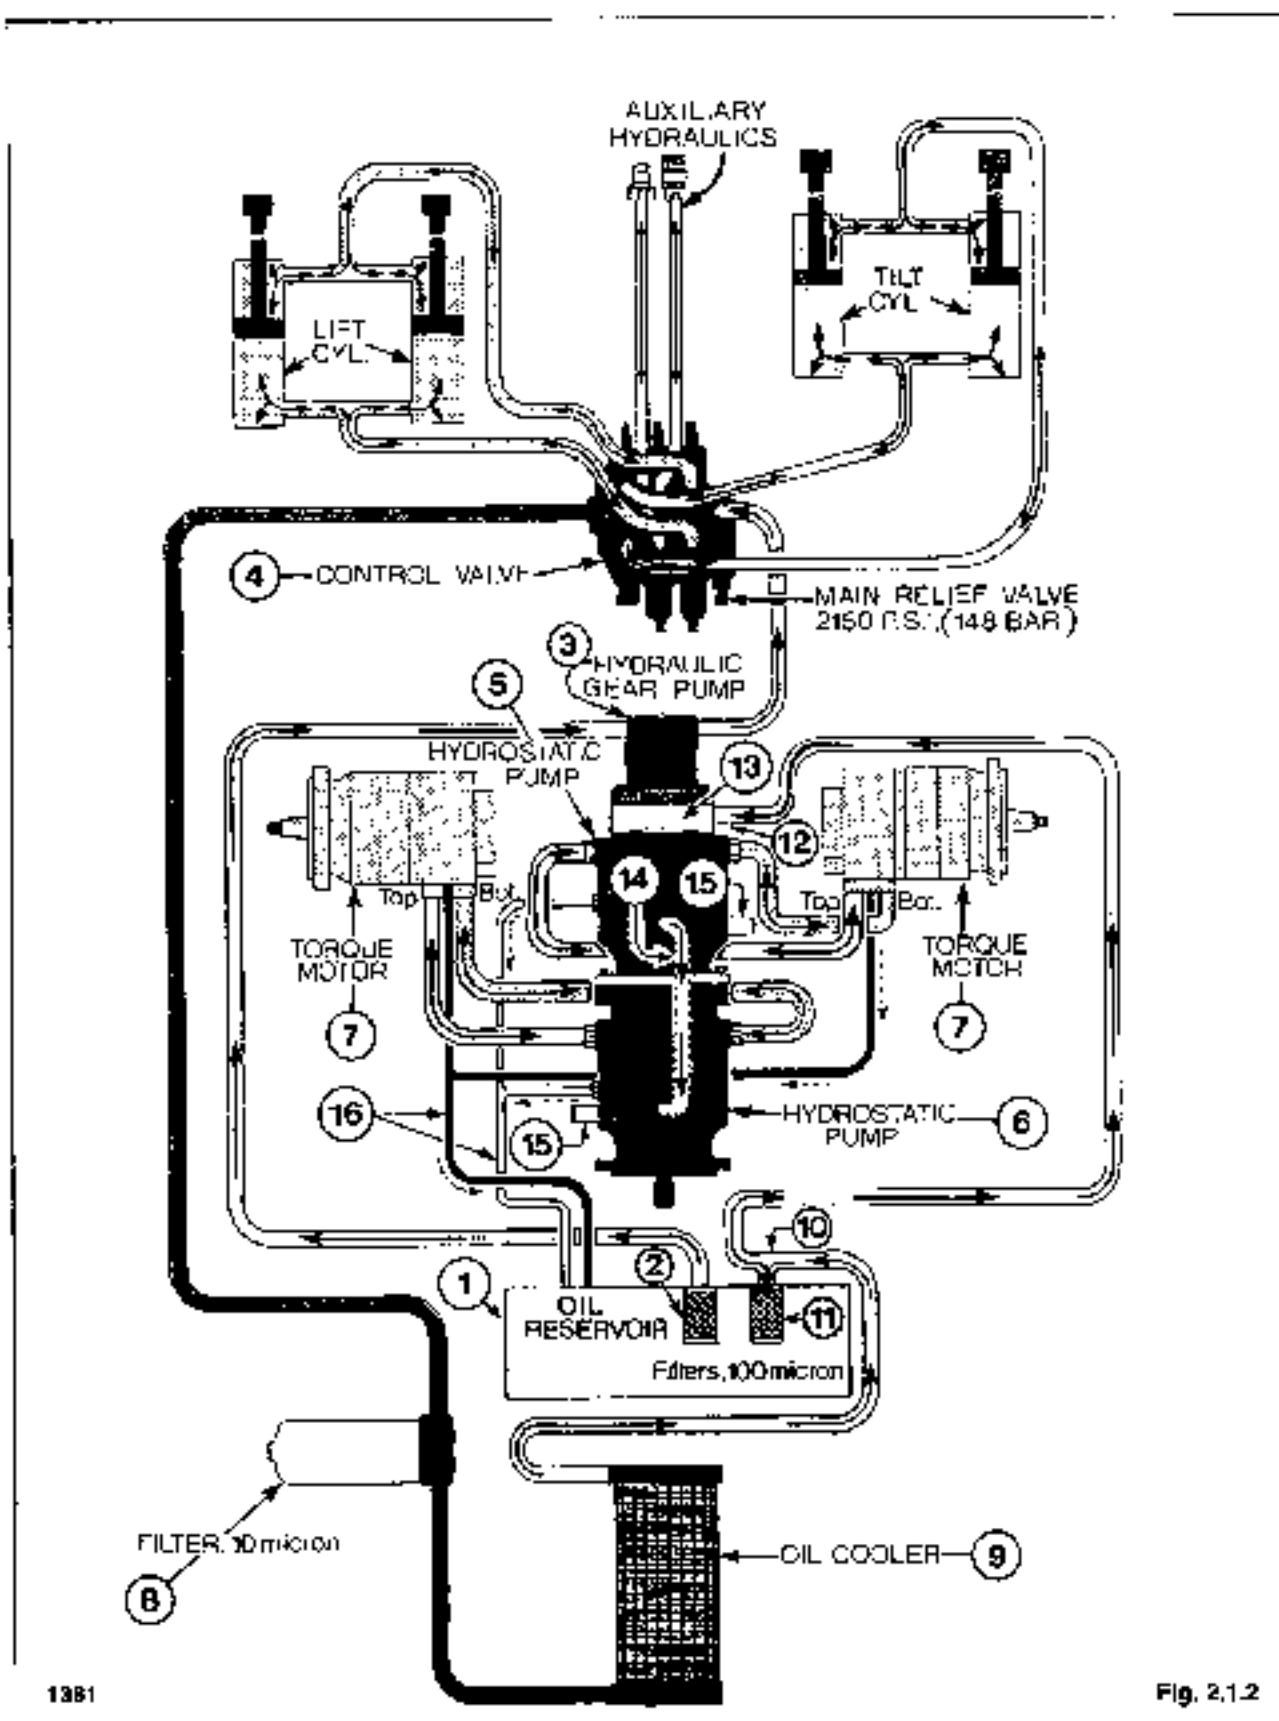

Fig. 2.1.2
The hydrostatic drive system (fig. 2.1.2) consists of two hydrostatic variable displacement piston pumps (5) and (6), mounted in tandem, and connected through high pressure lines to two fixed displacement torque motors (7). Hydrostatic pump (5) and the R.H. torque motor (7) provide power through a chain drive to the wheels on the R.H. side of the loader. The rear pump (6) and torque motor (7) provide drive power to the L.H. wheels.